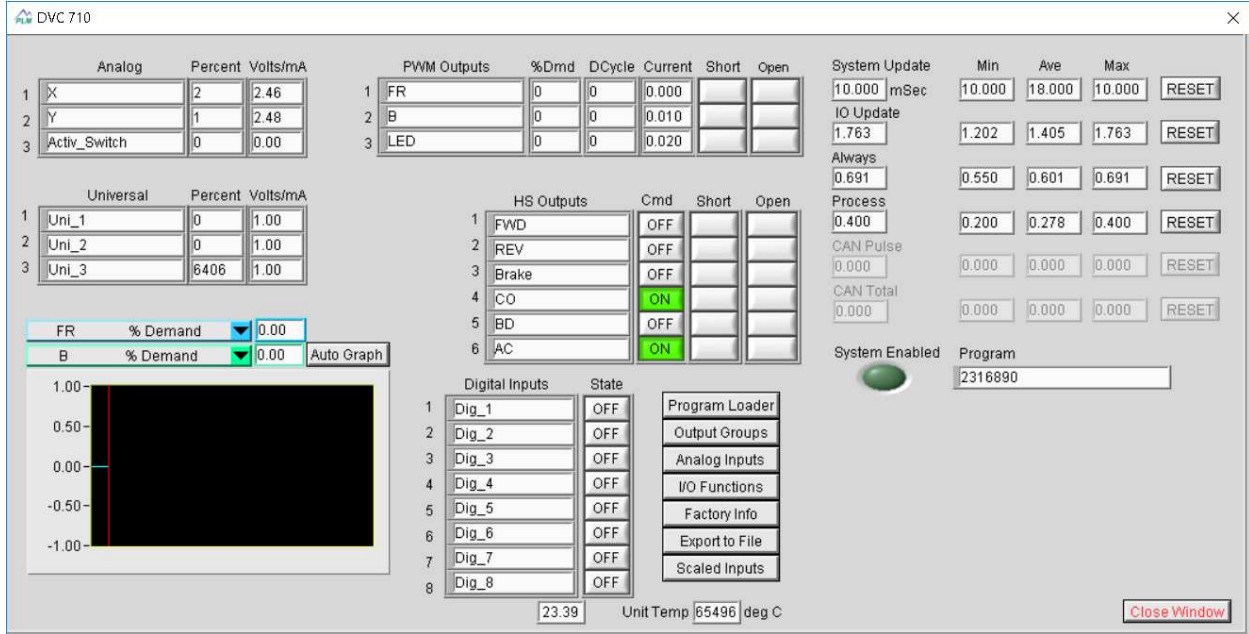

Figure 22 – DVC 710 Monitor Window
- 15) Click the “Close Window” button on the right of the screen to bring up the Main Menu window to exit the Monitor (see Figure 22). Select the Quit button to exit the Program Loader.